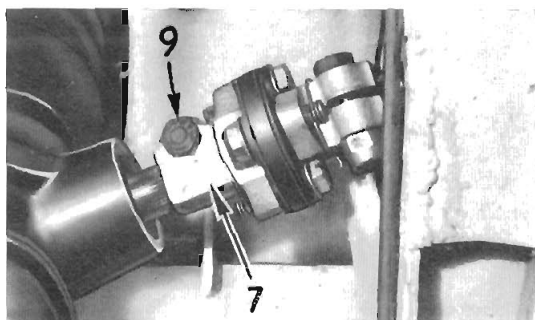

Fig. 22. Steering column lower coupling
1. Remove the bolt (9) from the steering coupling (7), Fig. 22.